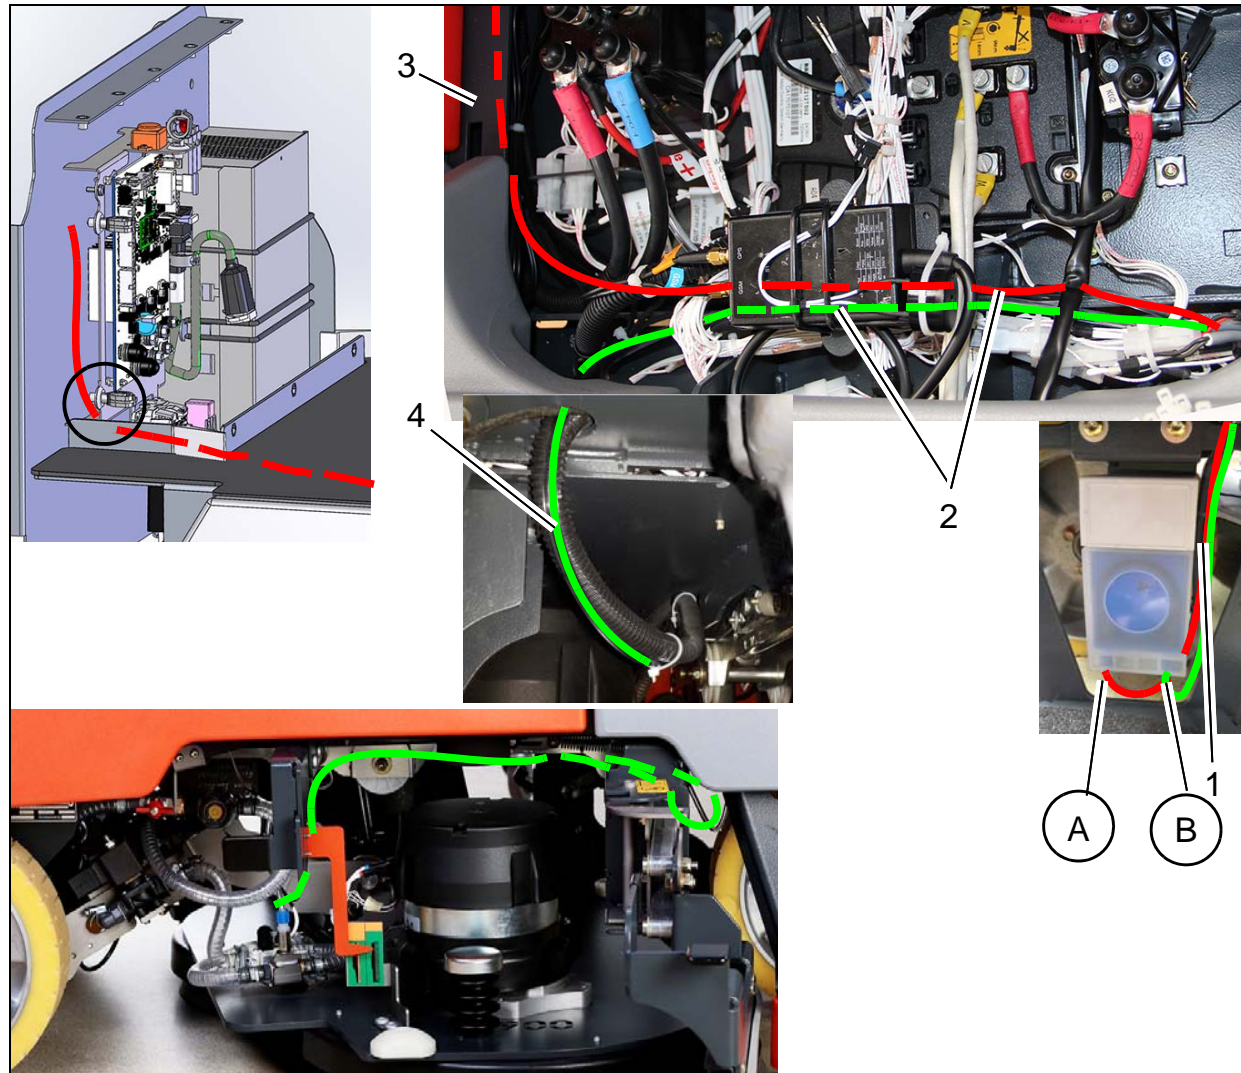

Fig. 6
1. Lead the dosing hoses behind the dosing pump along the electrical cable through the opening of the chassis (Fig. 6/1).
2. Lead the hoses above the chassis on the right-hand side of the machine (Fig. 6/2).
3. Route hose **A** beneath the plate (Fig. 6/3). Then lead the hose behind the holder of the machine controller to the hole in the cover (Fig. 5/3). **Otherwise there is a risk of crushing from the tread plate!**